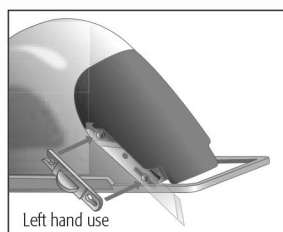

Fig. 1
- 4 Replace the **Blade Clip**, taking care to position the open end of the clip to the top. Slide upwards until clip snaps into place (**Fig. 1**)